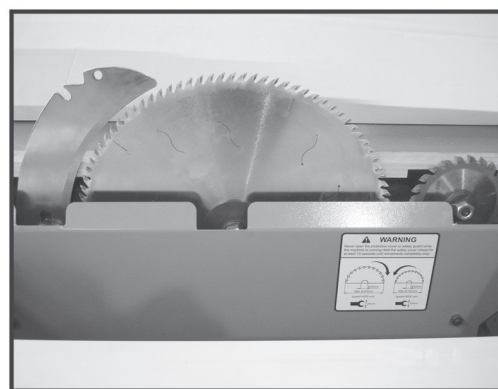

Fig.32
3. Move the sliding table all the way forward to expose the internal blade guard that covers the blades and riving knife. (Fig. 32)